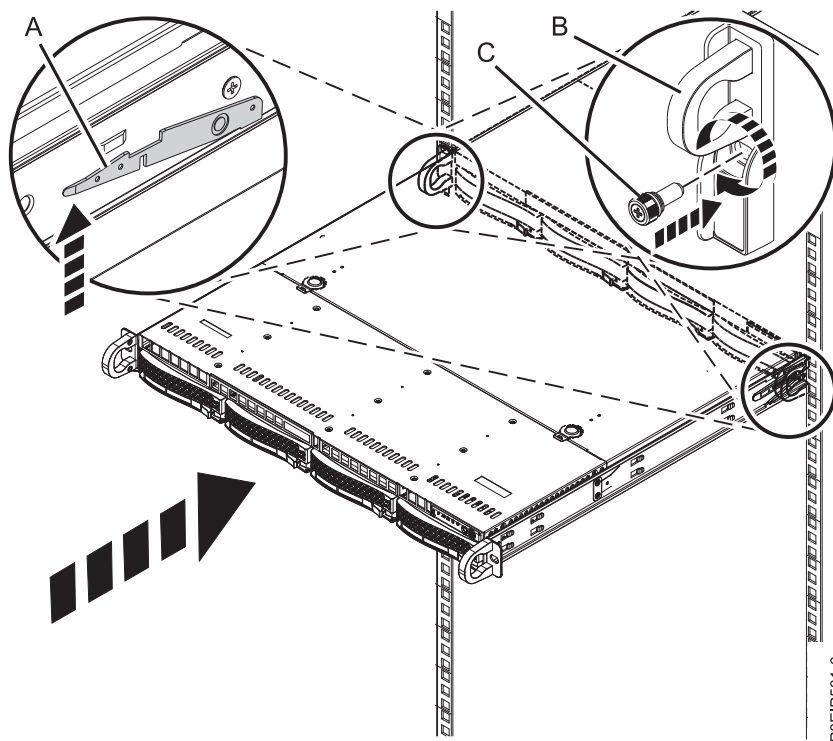

Figure 72. Placing the system into the operating position
5. Release the rail safety latches (A), as shown in Figure 72, then push the system fully into the rack by using the handles (B). The safety latches work in opposite directions; the latch on one side moves up while the latch on the other side moves down.